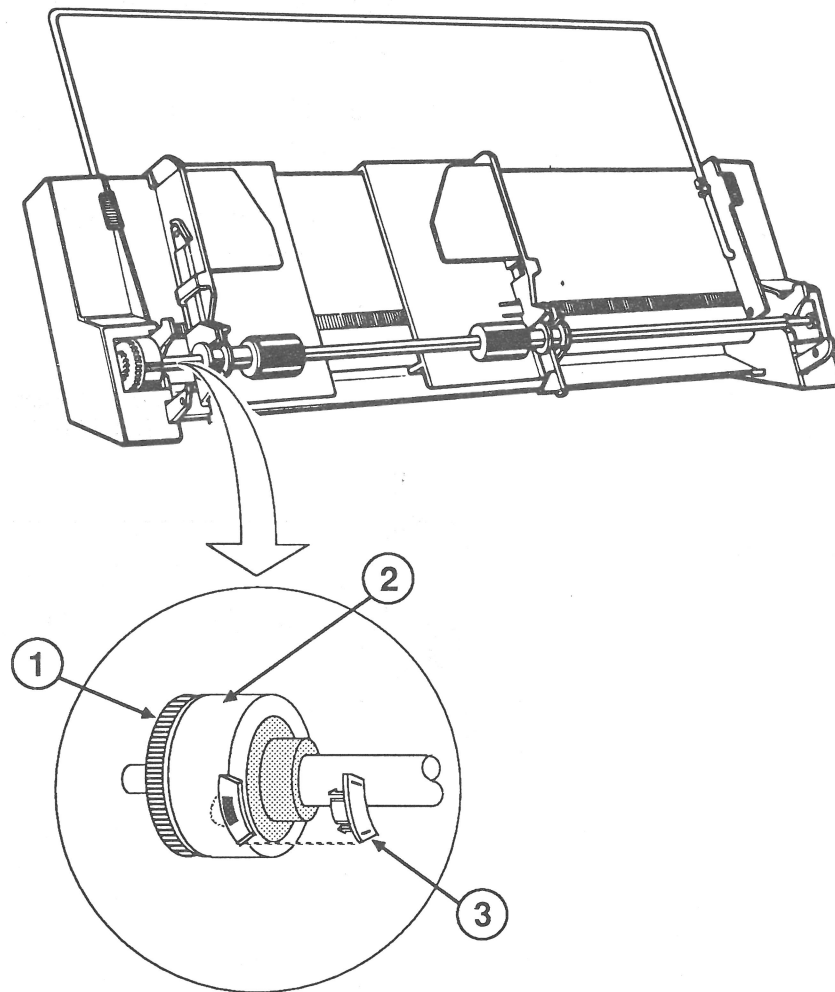

FIGURE 11
- 4. Locate the drive gear (Figure 11, #1) on bin 3. Rotate the gear toward you until the plastic roller (Figure 11, #2) rotates with the gear.
- 5. Install the configuration plug as shown in Figure 11, #3.